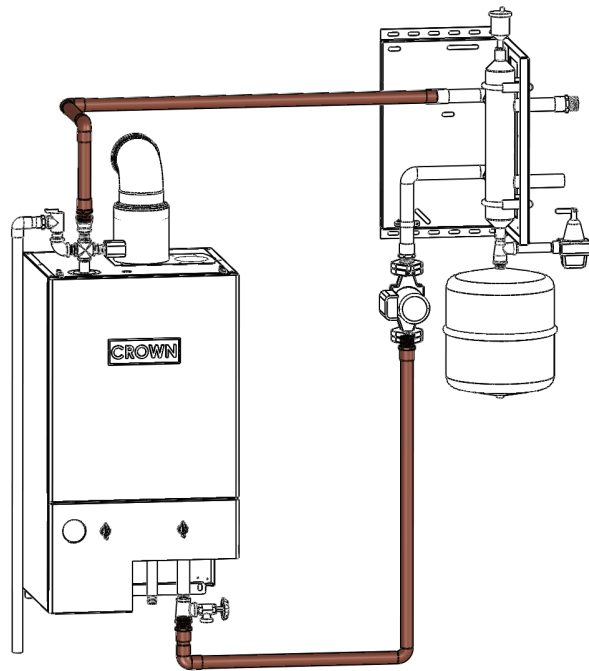

FIGURE 5.6: Boiler Loop Equivalent Length (Shaded) - BB100H
- 2) Refer to the appropriate Figure 5.6, 5.7, or 5.8 for the type of Bimini Buddy being installed. Determine the length of all straight pipe on the planned installation that is shaded in the drawing.